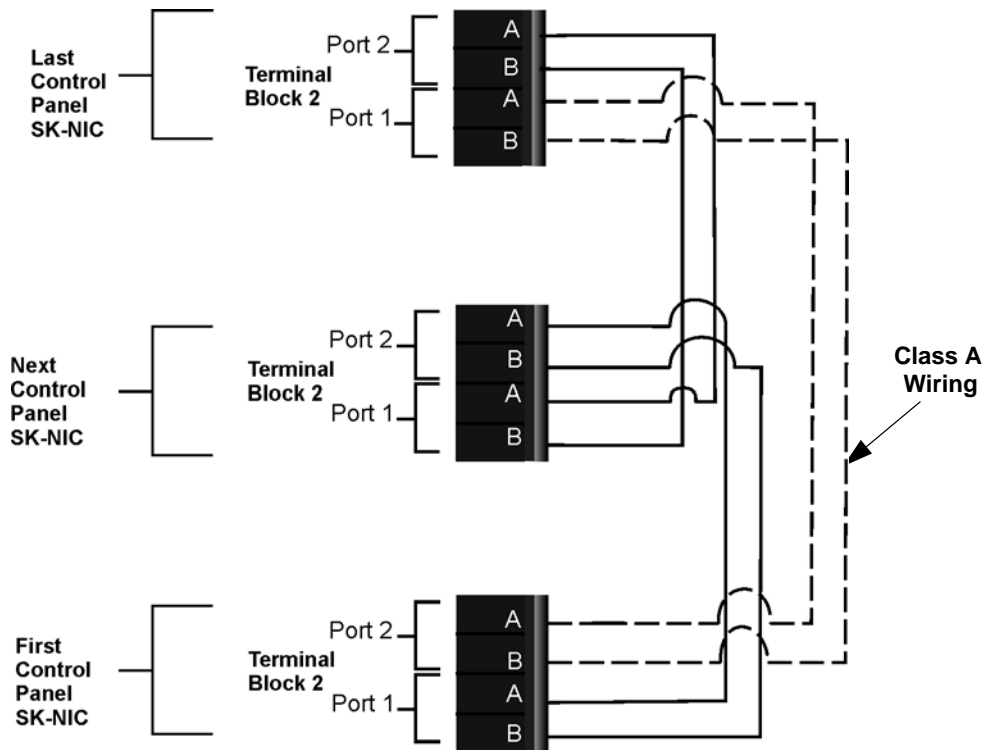
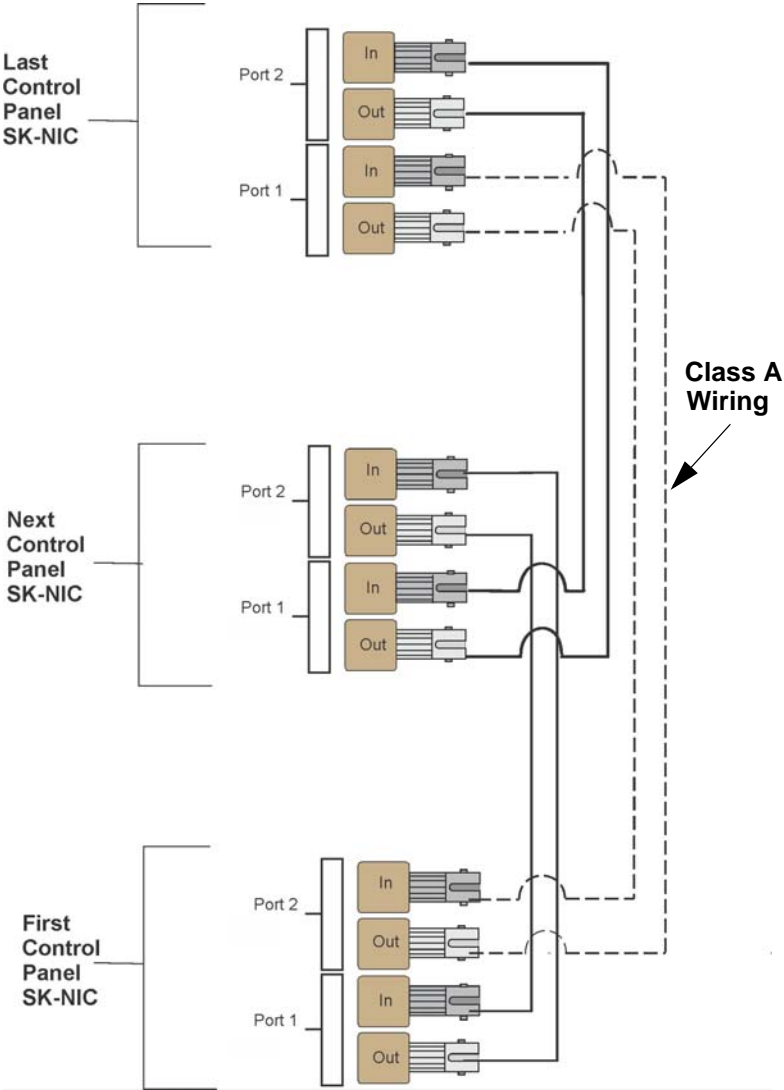
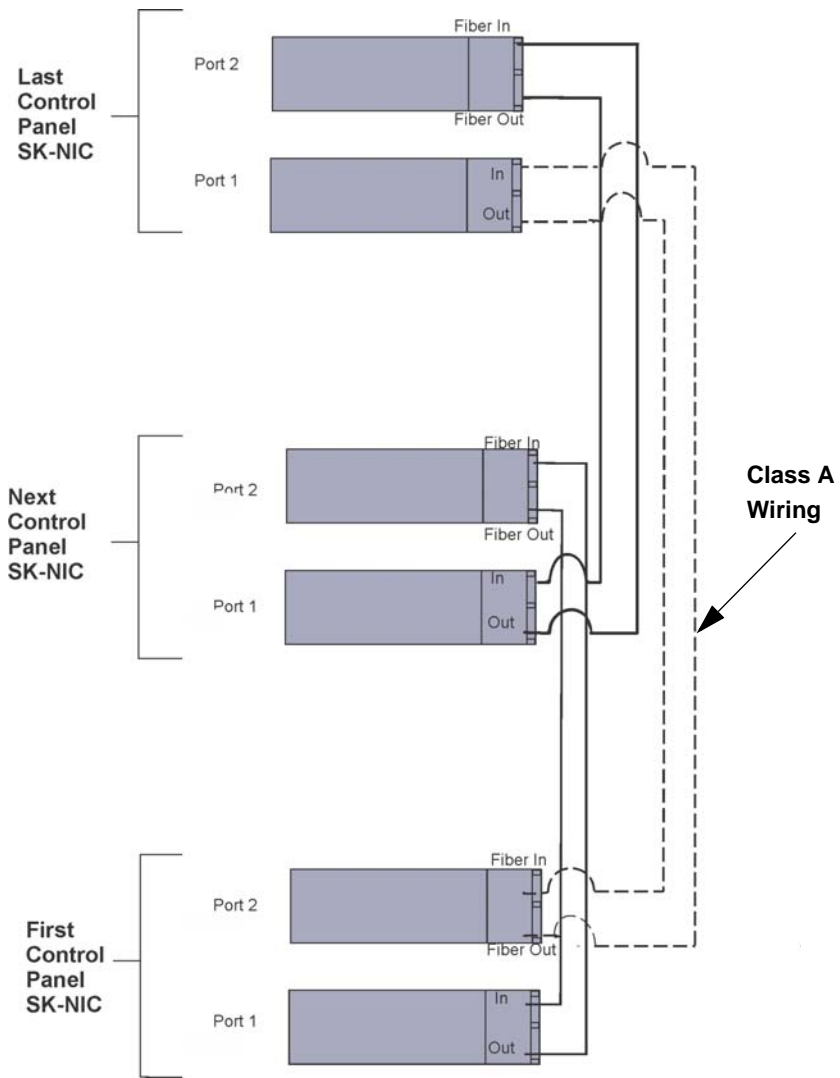
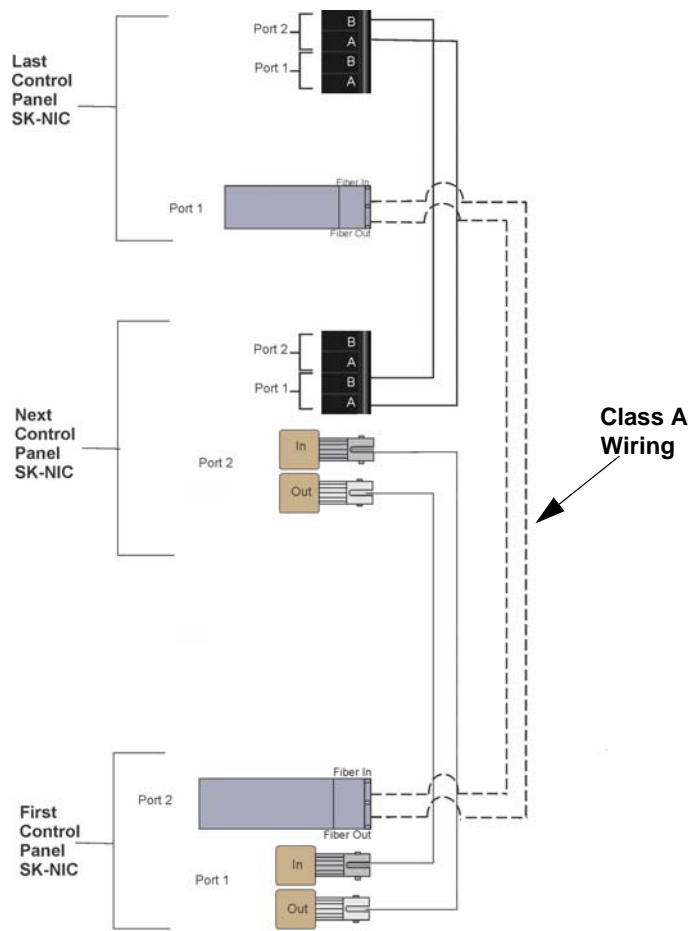

Figure 5-6 Twisted Pair Wiring Configuration
Figure 5-7 Fiber Optic Wiring Example
Figure 5-8 Fiber Optic Wiring Single-Mode Example
Figure 5-9 Twisted Pair and Fiber Optic Combination Wiring Example
5. Based on the type of data medium chosen, run the twisted pair wiring/fiber optic cable to the next SK-NIC using a class B or class A wiring method. A combination of both medium types can be used. See Figure 5-6, Figure 5-7, Figure 5-8, and Figure 5-9 for SK-NIC wiring examples.
Unshielded twisted pair wiring between multiple panels is shown in Figure 5-6. Class A wiring is shown with a dotted line.
Fiber optic cable between multiple panels is shown in Figure 5-7. Class A is shown with a dotted line.
A mixture of fiber optic cable and twisted pair wiring between multiple panels is shown in Figure 5-9. Class A cabling is shown with dotted line.